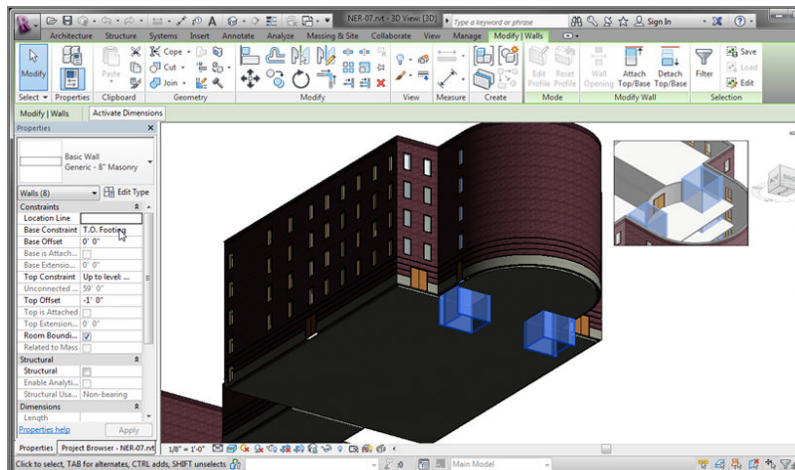

FIGURE 6.54: In the Properties dialog box, change Base Constraint to T.O. Footing.
3. In the Properties dialog box, in the Constraints category, set Base Constraint to T.O. Footing, as shown in Figure 6.54.